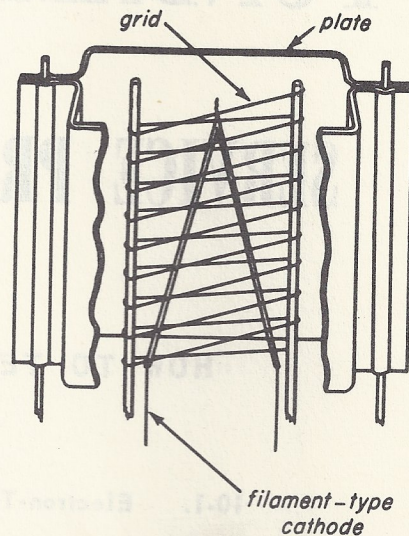
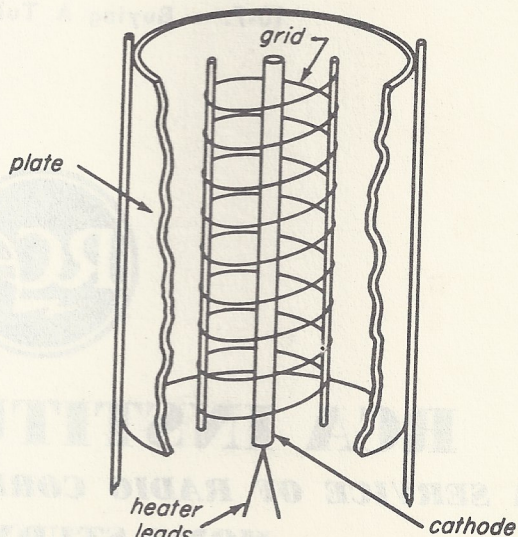

Fig. 10-1
Fig. 10-2
Most electron tubes consist of four major parts, or *elements*, as they are called. Figures 10-1 and 10-2 show two ways in which these elements may be arranged. The major parts or elements are:
1. A *filament* or *heater*, which is a loop or coil of fine wire or ribbon, somewhat similar to the filament in an electric-light bulb. When current flows through it, the filament becomes heated. The heat causes electrons to be given off or *emitted* from the surface of the filament. The process by which metals *give off* electrons when heated is called *electron emission*. In some tubes, the electrons are emitted directly from the filament. The construction of a typical tube of this type is shown in Fig. 10-1. In most tubes, however, the supply of electrons is obtained from a cathode.
2. The *cathode*, which is a metallic sleeve that surrounds the filament, and is heated by it. It is chemically coated with substances that, when they are heated, readily emit electrons. The construction of a typical tube using a cathode is shown in Fig. 10-2.
4. The *plate*, or *anode*, which is a metal structure, either in the shape of a cylinder, as in Fig. 10-1, or in the shape of a rectangle, as in Fig. 10-2. Its purpose is to receive or collect the electrons that have been emitted from the filament or cathode of the tube.